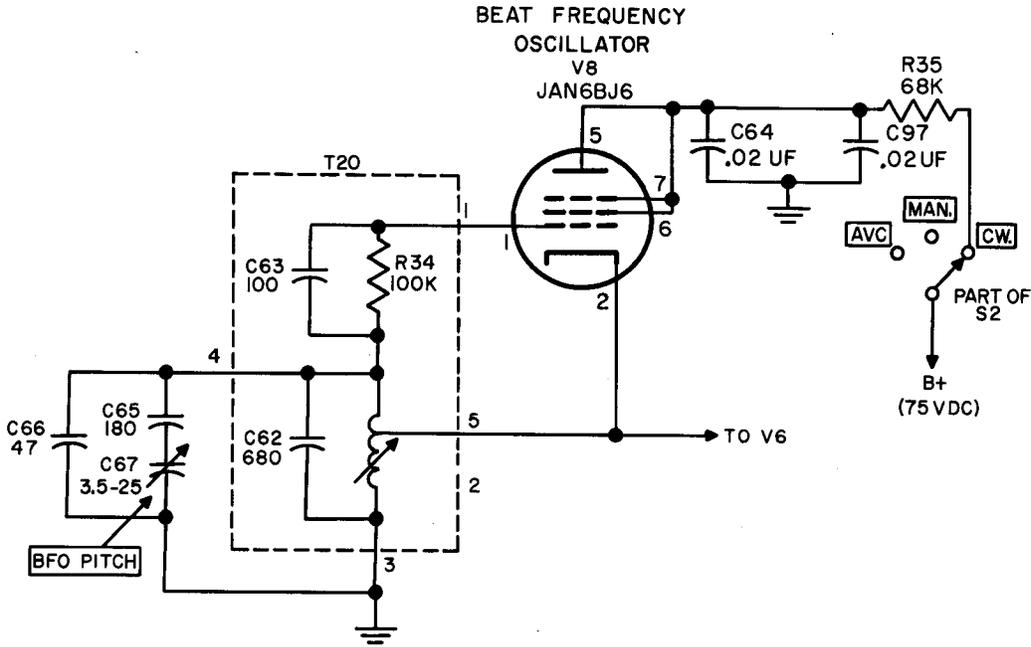

Figure 2-8. BFO Simplified Schematic Diagram
g. BEAT FREQUENCY OSCILLATOR (BFO). (Figure 2-8)—The beat frequency necessary to produce audible reception of a c-w signal is generated by tube V8, a triode connected type 6BJ6, operating in a Hartley oscillator circuit. Plate voltage is applied to V8 when the AVC-MAN. -CW. switch in the CW. position. Resistor